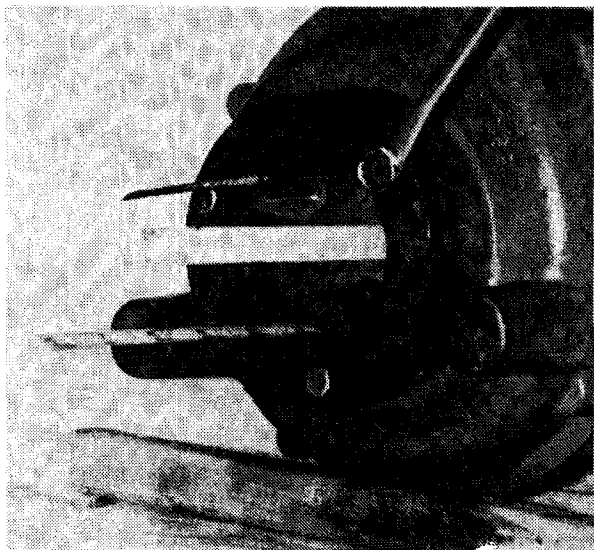

FIG. 7
9. To provide proper alignment use three sections of an old $\frac{1}{2}$ " tape measure as shims 120 degree apart and then tighten bolts. **Be sure to pull screws down evenly, applying pressure on all three screws. DO NOT TIGHTEN ONE SCREW CLEAR DOWN BEFORE ADJUSTING OTHER SCREWS.** See Figure 7.